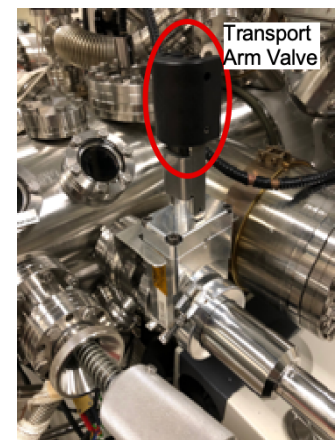

Figure 3 Transport arm attached to the KF Flange with transport arm valve handle facing up.
- 15) When LL gauge is 7.5×10^2 Torr (90 seconds), start the LL turbo and open the hand valve on PTS, Figure 3, the handle facing up, NOT THE VALVE to STC FACING DOWN!!!!)